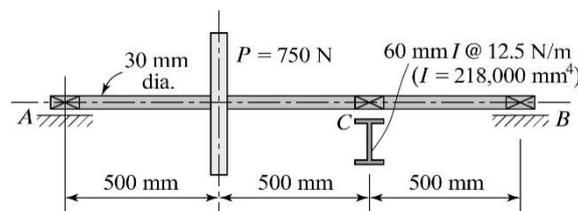

Fig.12
13. Bearings A and B in Fig. 12 rest on immovable supports. Bearing at C is located at the center of a simply supported 60 mm I-beam 1.0 m long. Let a fill be placed under this bearing so that all bearings are at the same elevation before load is applied. Neglect dead load of the shaft.